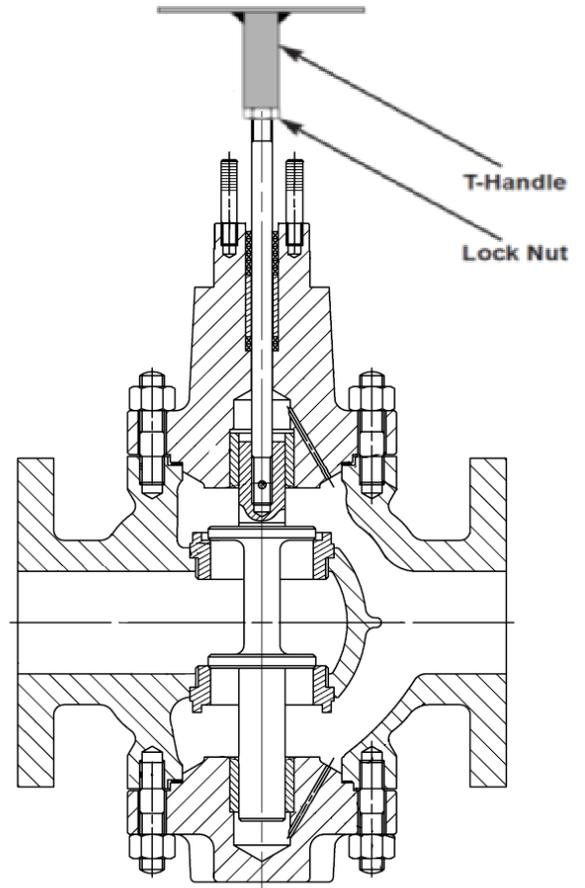

Figure 3: Seat Lapping Device
7. Insert two or three pieces of packing (16) into the packing box to assist in guiding the stem and plug during lapping.
8. Screw a drilled and tapped rod with a T-handle onto the plug stem and secure with a locknut (see Figure 3).